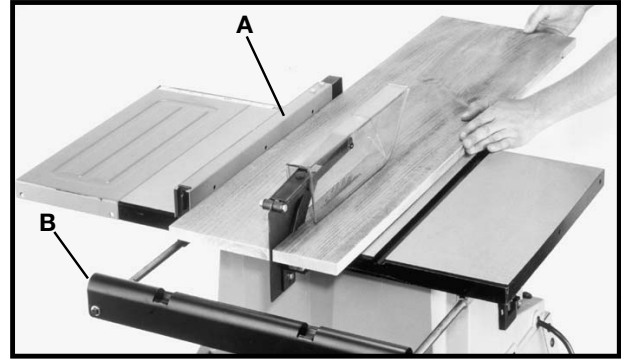
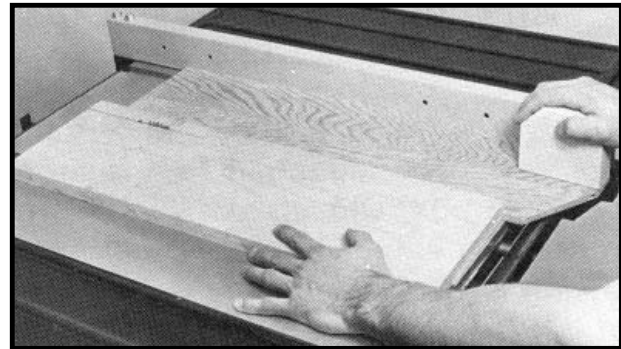
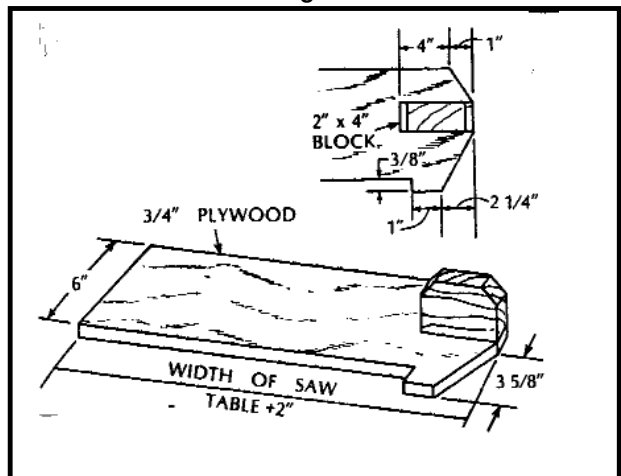

Fig. 47
Fig. 48
Fig. 50
Ripping is cutting lengthwise through a board. The rip fence (A) Fig. 47 is used to position and guide the work. One edge of the work rides against the rip fence while the flat side of the board rests on the table. Since the work is pushed along the fence, it must have a straight edge and make solid contact with the table. The saw blade guard must be used. The guard has anti-kickback fingers to prevent kickback and a splitter to prevent the wood kerf from closing and binding the blade.
1. Start the motor and advance the work holding it down and against the fence. **Never** stand in the line of the saw cut when ripping. Hold the work with both hands and push it along the fence and into the saw blade (Fig. 48). The work can then be fed through the saw blade with one or two hands. After the work is beyond the saw blade and anti-kickback fingers, the hand is removed from the work. When this is done the work will either stay on the table, tilt up slightly and be caught by the end of the rear guard, or slide off the table to the floor. Alternately, the feed can continue to the end of the table, after which the work is lifted and brought along the outside edge of the fence. The cut-off stock remains on the table and is not touched until the saw blade has stopped, unless it is a large piece allowing safe removal. When ripping boards longer than three feet, it is recommended that outfeed support (B) Fig. 47, should be extended as far out as possible to keep workpiece from falling off the saw table.
3. Ripping narrow pieces can be dangerous if not done carefully. Narrow pieces usually cannot be cut with the guard in position. If the workpiece is short enough, use a pushboard. When ripping material under 2 inches in width, a flat pushboard is a valuable accessory since ordinary type sticks may interfere with the blade guard. When using a pushboard, the width of the pushboard must be added to the width of the rip fence position setting. A flat pushboard can be constructed as shown in Fig. 50 and should be used as shown in Fig. 48